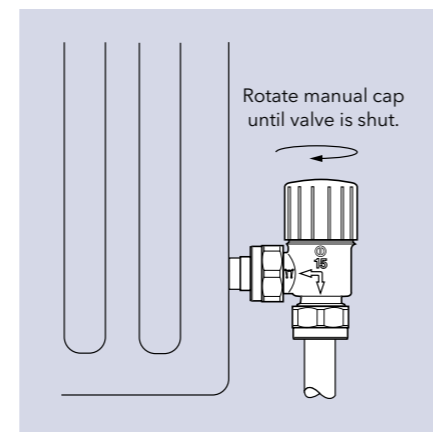

Fig. 1
3. Switch the boiler and pump off. Close all lockshield valves and using the manual caps also close any TRVs fitted on the system, (manual wheelhead valves must be left open) see Fig. 1.